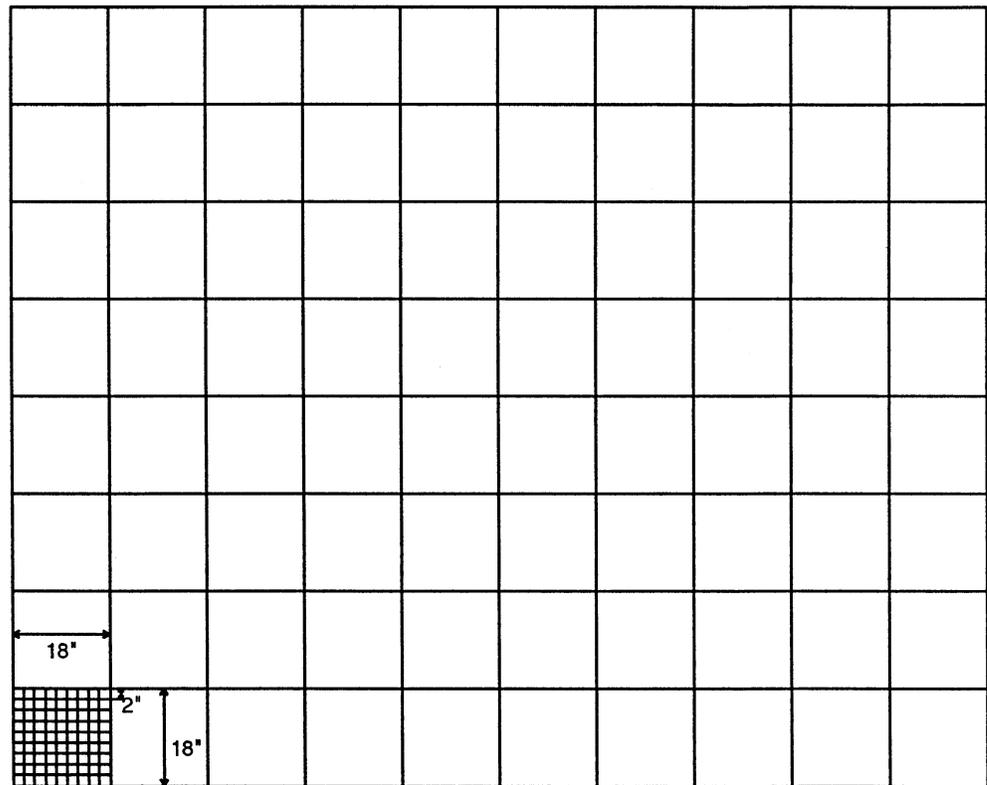
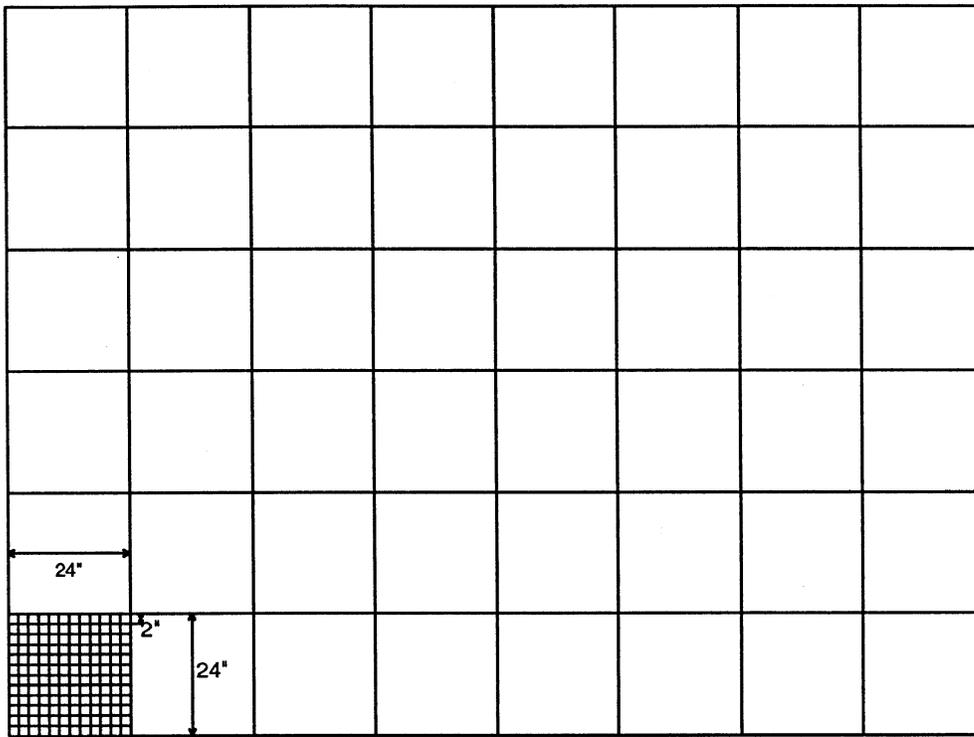
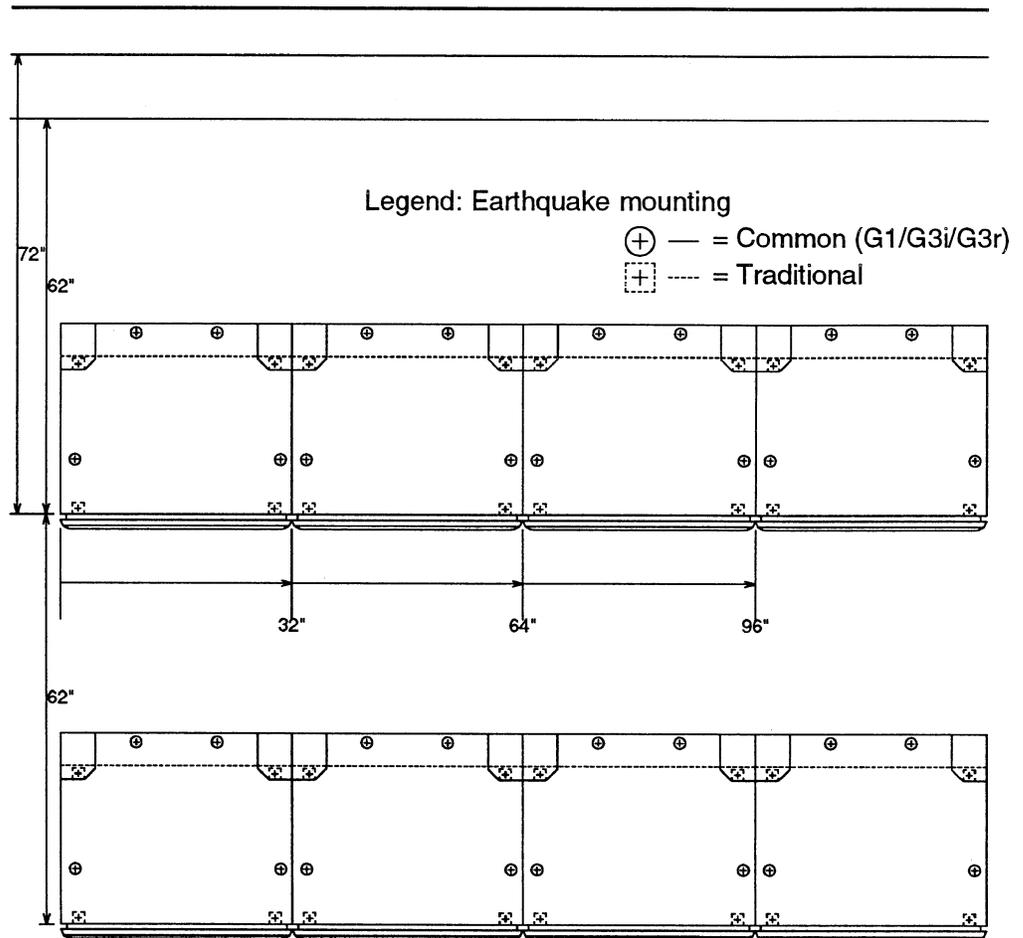

Figure 2-13. Floor Template — 18-Inch Tile (L472366)
Figure 2-14. Floor Template — 24-Inch Tile (L472367)
Figure 2-15. Floor Template — Cabinet Lineup (L472368)
- Modification of the floor tiles. Cutouts in floor tiles will have to be made to accommodate the MDF. Discuss this with the customer. Contact the BCSysDesign Center regarding final requirements for cutouts in floor tiles. See Figure 2-13 "Floor Template — 18 Inch Tile (L472366)," Figure 2-14 "Floor Template — 24 Inch Tile (L472367)," and Figure 2-15, "Floor